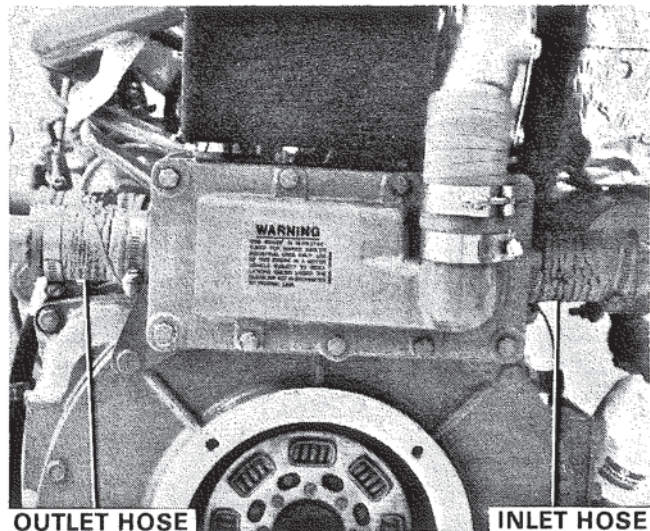

Figure 30. Intercooler.
1. Remove water hoses from intercooler. Figure 30.